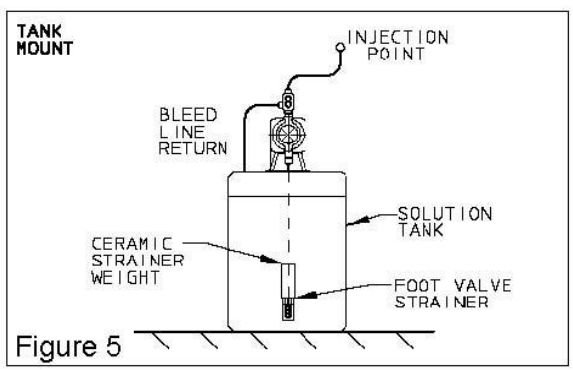

Figure 5
The pump can be mounted on top of a solution tank as shown in Figure 5. Install chemical pump on the cover. Insert suction tubing through the center hole and cut tubing so foot valve/strainer hangs about 1 or 2 inches (2-5 cm) above the bottom of the tank. Mount the chemical pump rigidly by drilling four .25" (6 mm) holes and using four (4) #10 (M5) screws and nuts.
To prevent clogging or check valve malfunction always install a strainer assembly to the end of the suction tubing (Figure 5). This foot valve/strainer assembly should always be installed 1 to 2 inches (2-5 cm) above the bottom of the chemical tank. This will help prevent clogging the strainer with any solids that may settle on the tank bottom. The chemical tank and foot valve/strainer should be cleaned regularly, to ensure continuous trouble free operation. If the chemical being pumped regularly precipitates out of solution or does not dissolve easily or completely (e.g. calcium hydroxide), a mixer should be used in the chemical tank. These are readily available in many motor configurations and mounting. To obtain, contact supplier.